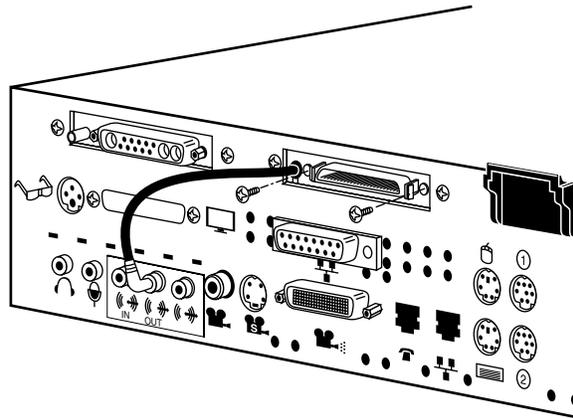

Figure 4-5 Removing the Audio Cable and the External Screws
2. Disconnect the small, black, audio cable from the audio out port on the rear of the Indy chassis, as shown in Figure 4-5.
3. Using a Phillips screwdriver, remove the two external screws from the connector, as shown in Figure 4-5.